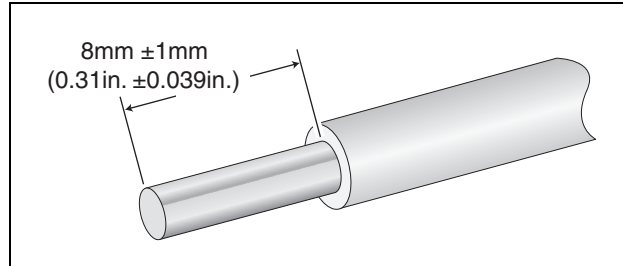

Figure 33. Stripped Wire
4. With a 14-gauge wire-stripping tool, strip the three wires in the tray cable coming from the DC input power source to  $8\text{mm} \pm 1\text{mm}$  ( $0.31\text{ in.} \pm 0.039\text{ in.}$ ), as shown in Figure 33 on page 71.